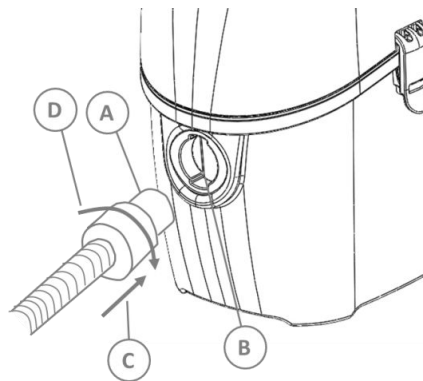

Figure 3
7. See Figure 3. Insert hose adaptor (A) into the intake port and turn handle (D) clockwise until locked. To remove the hose, turn handle (D) counter clockwise until unlocked and pull the hose adaptor (A) out.